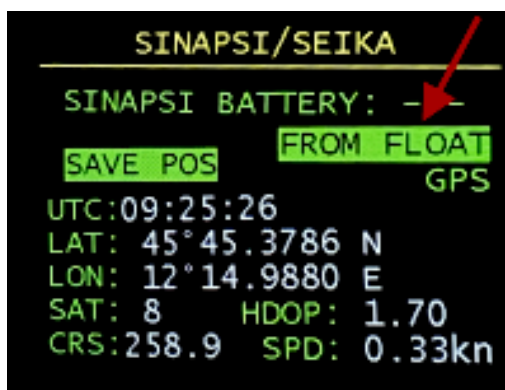

Fig 21 - Sinapsi
Accessing from the Menu > Sinapsi / Seika appears the screen of **Fig 21 - on p. 17** where the following data are viewable:
- NO FIX – DR: (like in top right **Fig 21 - on p. 17**) SINAPSI GPS is on and position fix is not still acquired, the navigation is in dead-reckoning mode;